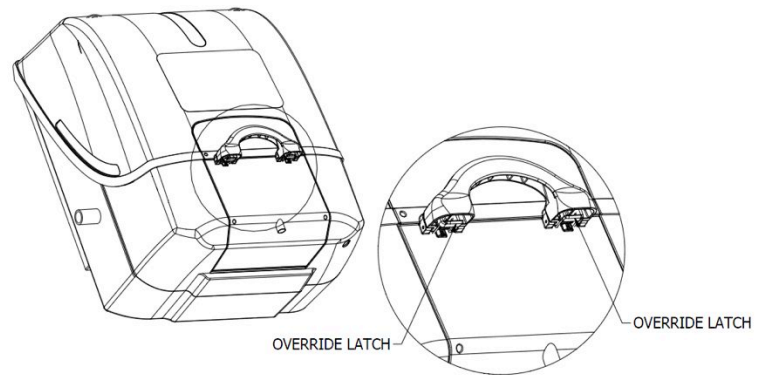

FIGURE 15
2. To inspect Nozzle Assembly, open Tray Assembly utilizing Supervisory Override Latch. Override Latches are located on underside of handle (Ref Figure 15). Both latches must be depressed to allow tray to open. **Note:** The only way to open Tray Assembly without breaking easy Break Security Tag and activating Fluid Cartridge is to use the Override Latch.